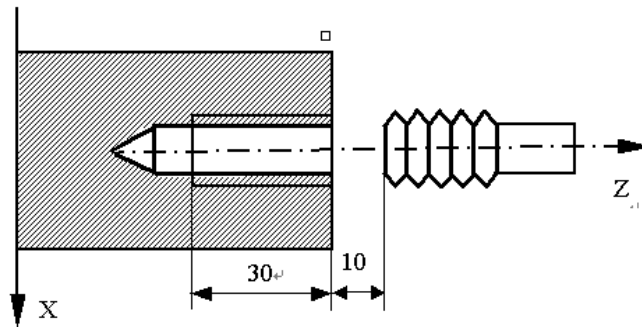

Fig. 3-37
- ① Tool infeed in Z direction (start spindle before G33 is executed);
- ② M05 signal outputs after the tool reaches the specified end point in Z direction in programming;
- ③ Test spindle after completely stopping;
- ④ Spindle rotation (CCW) signal outputs;
- ⑤ The tool retracts to starting point in Z direction;
- ⑥ M05 signal outputs and the spindle stops;
- ⑦ Repeat the steps ①~⑤ if multi threads are machined.
**Example:** Fig.3-37, thread M10×1.5